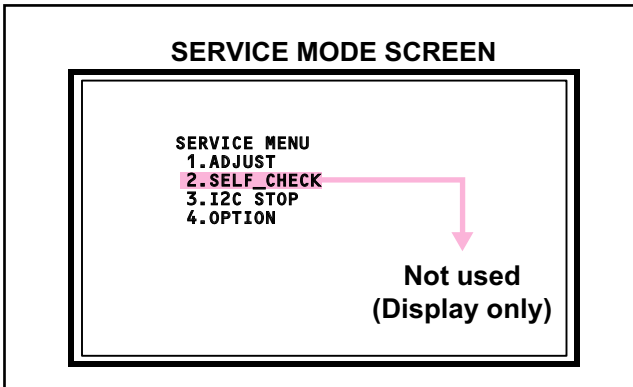

Fig.1
- (1) Press **[INFORMATION]** key and **[MUTING]** key on the remote control unit simultaneously to enter the SERVICE MODE SCREEN. (Fig.1)